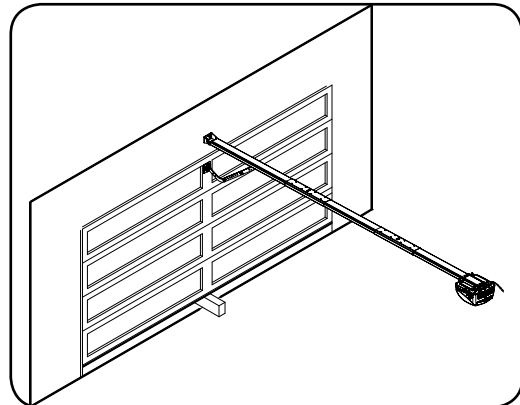

Fig. 26
- Place a piece of timber approximately 40mm high on the floor directly under the door (Fig 26).